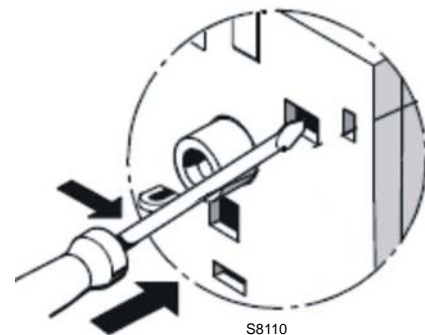

Fig. 28
- **Contact test NC (95-96) and NO (97-98)(Fig. 28)**